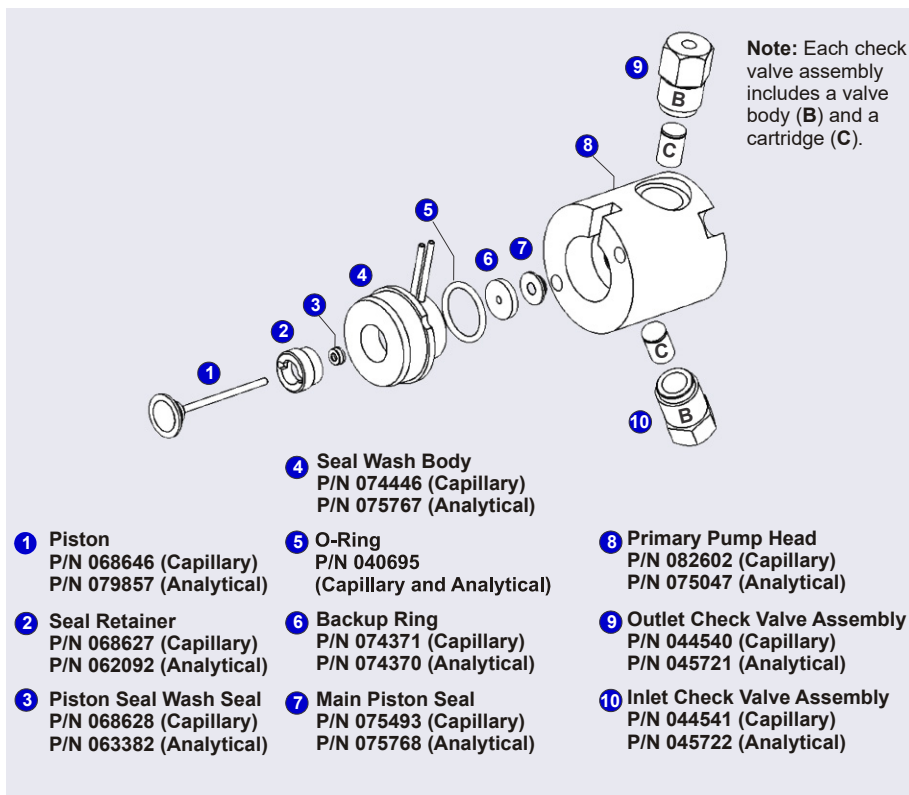
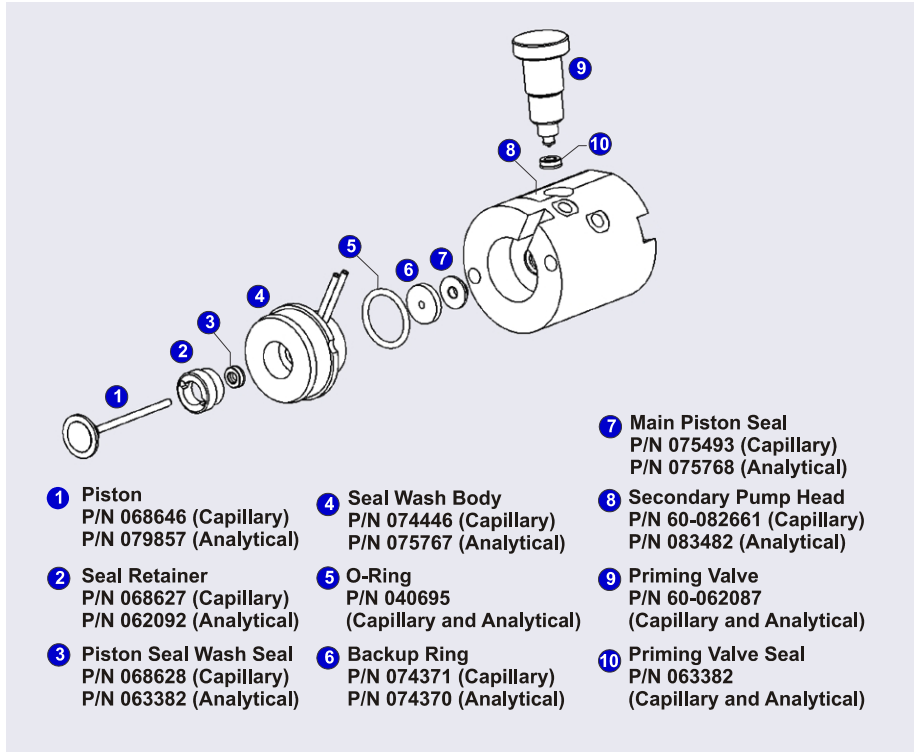

Figure 10-7. DP/SP Pump: Primary Pump Head Assembly
Figure 10-8. DP/SP: Secondary Pump Head Assembly
NOTE Capillary IC pumps and analytical IC pumps use different main piston seals and piston seal wash seals. Before continuing, verify that you have the correct seal for your pump type. Part numbers are shown in Figure 10-7 and Figure 10-8.
8. The primary and secondary pump heads have different components. When disassembling a pump head, see Figure 10-7 for a primary pump head or Figure 10-8 for a secondary pump head.
When disassembling and reassembling the pump head, see Figure 10-7 (primary pump head) or Figure 10-8 (secondary pump head).